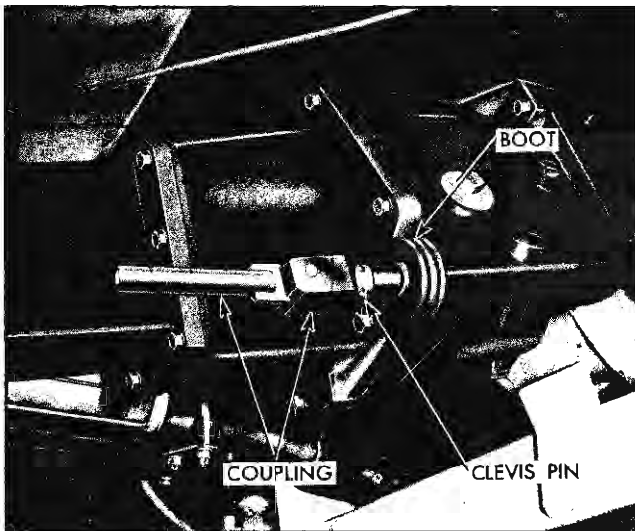

Fig. 7B-2 Control Rod Coupling Assembly
6. Install pin in control rod alignment hole and push control rod forward into gearshift lever and housing, until pin hits flange of housing (Fig. 7B-6).
7. Secure control rod to coupling by tightening clamp nut to 10-20 lb. ft. torque (Fig. 7B-1).